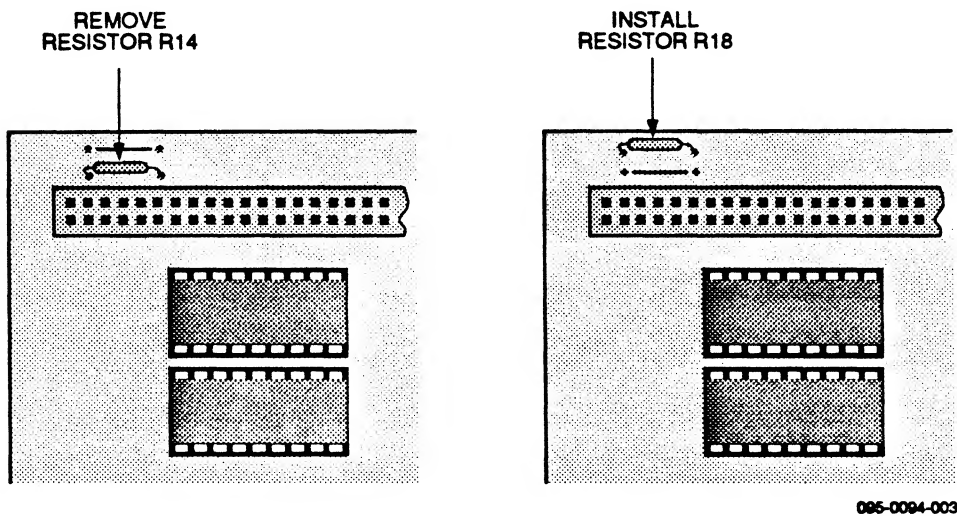

Figure 2-4. Resistor Removal/Installation
1. Remove Resistor R14 (see Figure 2-4).
2. Hold the Mother board (component side up) with the 96-pin connector to the right, as shown in Figure 2-4.